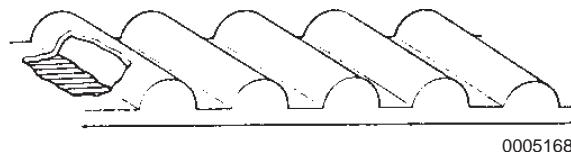

Figure 5-170
- If the belt teeth are worn, check the timing belt cover for damage and that the gasket is installed correctly. Also, check the pulley teeth for contamination with dust or debris (**Figure 5-170**).